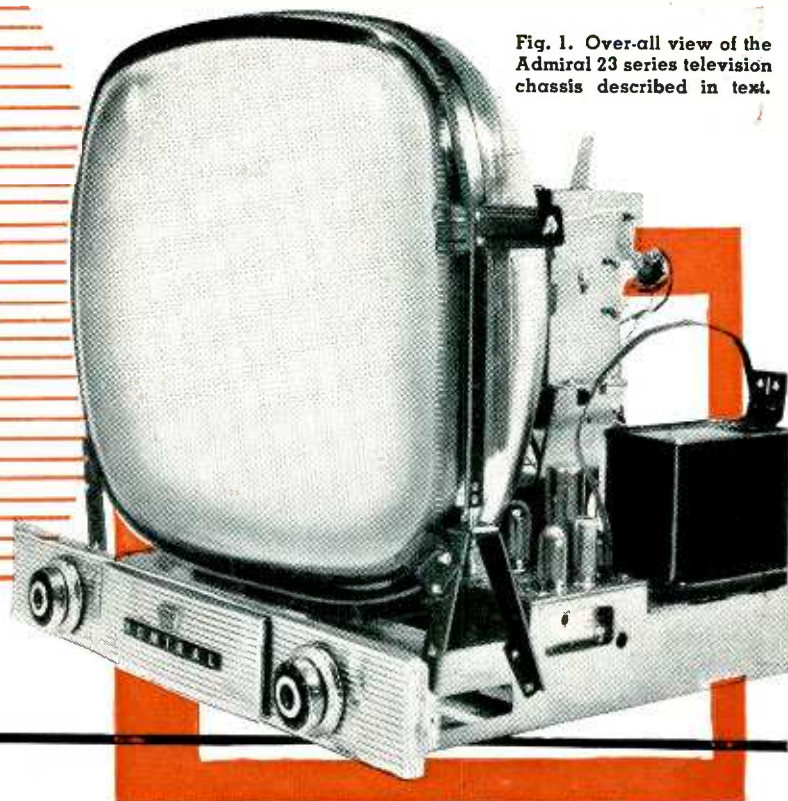

Fig. 1. Over-all view of the Admiral 23 series television chassis described in text.
R. F. Section. Circuit-wise, the 1954 *Admiral* 23-series receiver (shown in Fig. 1) follows closely the arrangement established by its predecessor, the *Admiral* 22-series chassis. A low-noise dual-triode 6BZ7 is used in the tuner r.f. amplifier. The circuit (see Fig. 2) is the familiar cascode amplifier which provides higher gain, with reduced noise level, than previous types, and results in a clearer picture in weak-signal areas. Characteristic of the cascode circuit is the direct coupling between the plate of the first triode and the cathode of the second section. Thus, a common current flows through both tubes and a.g.c. bias applied to the first triode grid will be effective for both tubes. Further, since the cathode of the second triode is